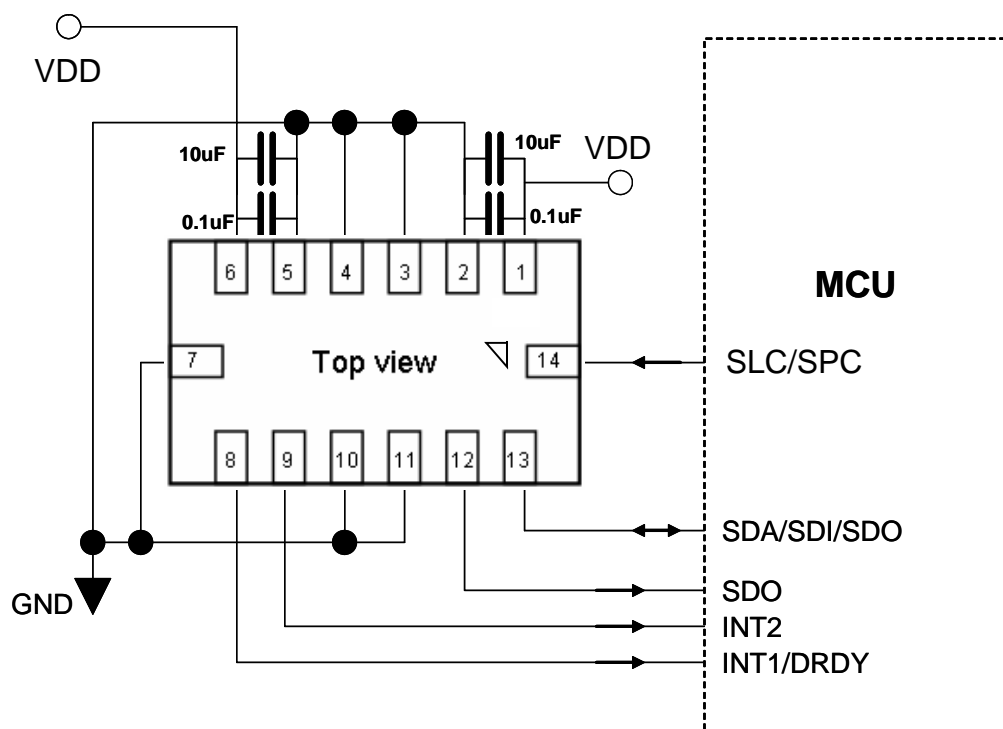

Figure 16. SPI Connection to MCU
The MMA7456L also uses serial peripheral interface communication as a digital communication. The SPI communication is primarily used for synchronous serial communication between a master device and one or more slave devices. See Figure 16 for an example of how to configure one master with one MMA745xL device. The MMA7456L is always operated as a slave device. Typically, the master device would be a microcontroller which would drive the clock (SPC) and chip select (CS) signals.